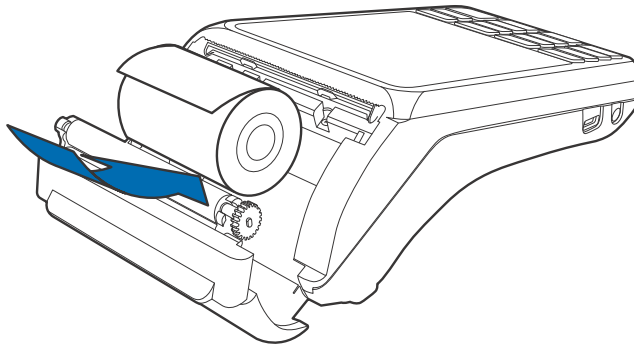

Figure 14 **Loading Paper Roll**
- 2 Load the paper roll as shown in Figure 14, with the edge of the paper on the top of the roll.